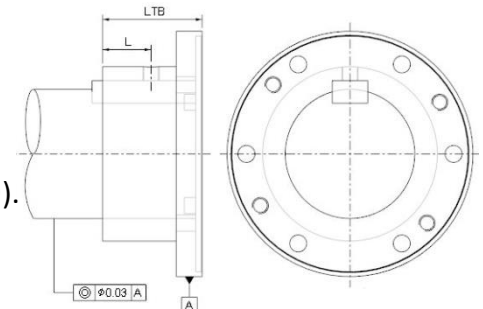

Fig. 2 Finish bore
3.1 Finish Bore Instruction (Fig. 2)
- Bring both hubs close along with equipment, maintain gap "S"(Refer table 2, fig.2).